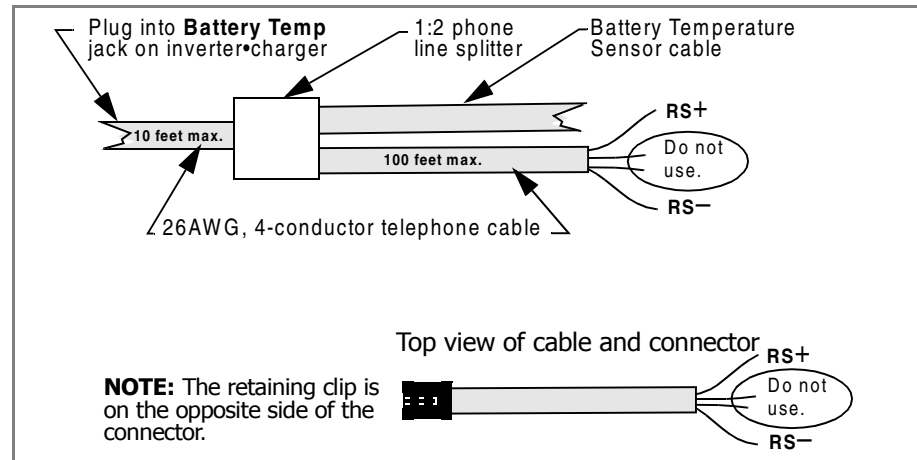
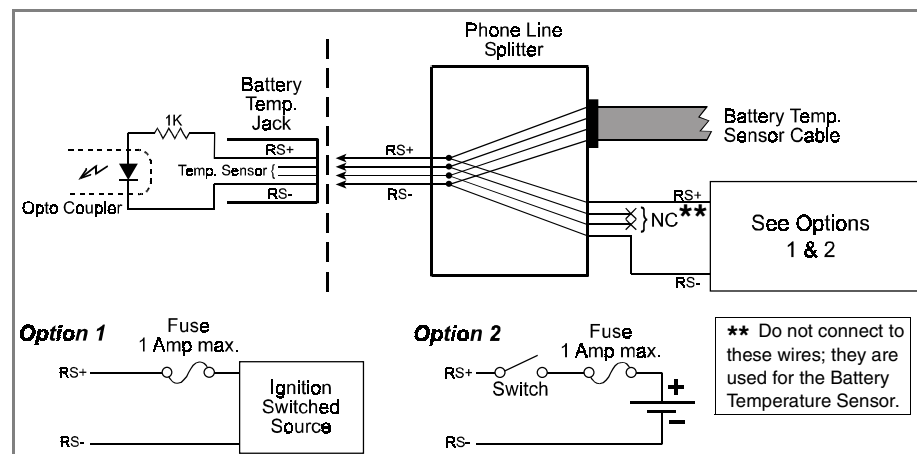

Figure 18 Cabling Details for Remote Shutdown Feature
Figure 19 Schematic for Remote Shutdown Feature
See Figure 18 and Figure 19.
2. See Figure 18 to identify the RS+ and RS- wires.
6. Plug the cables into the splitter and connect to the PROsine 2.0 as shown in Figure 18.